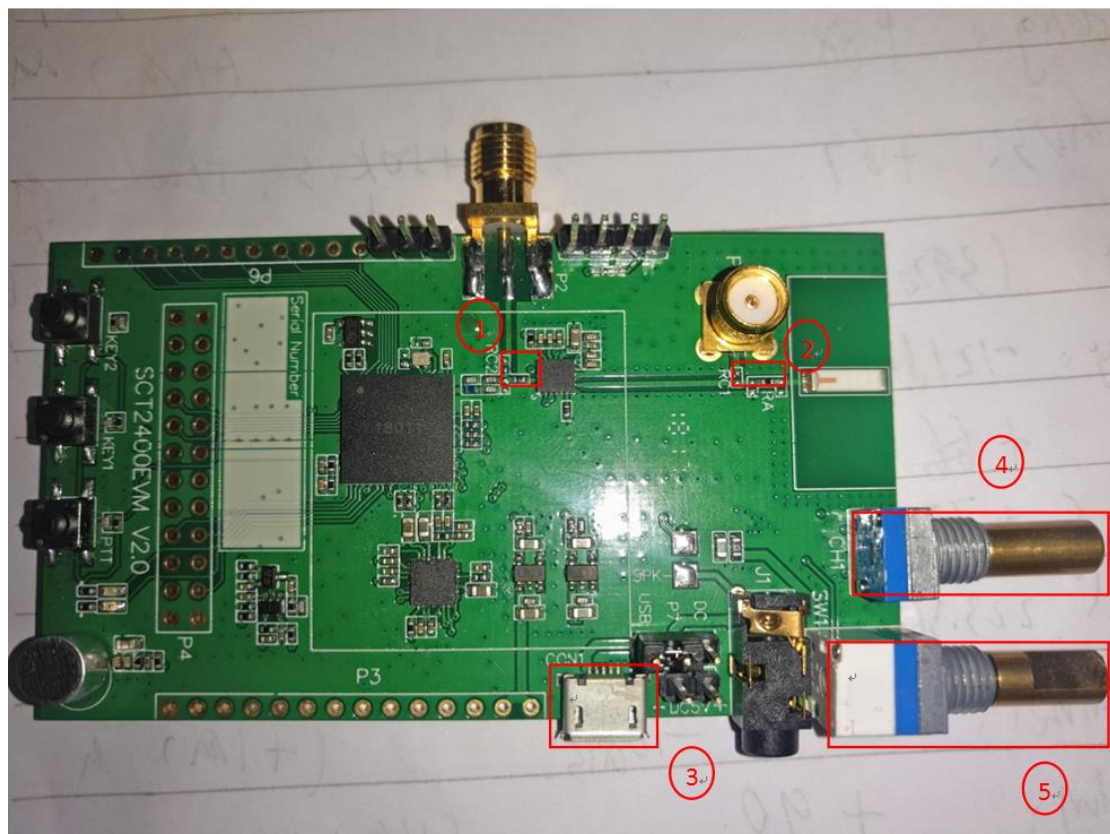
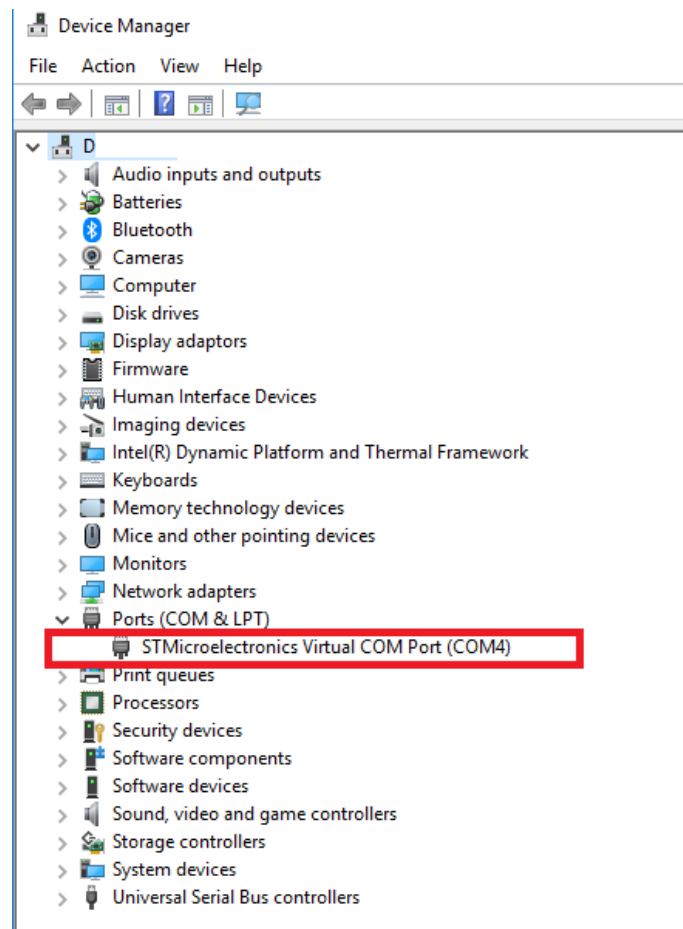
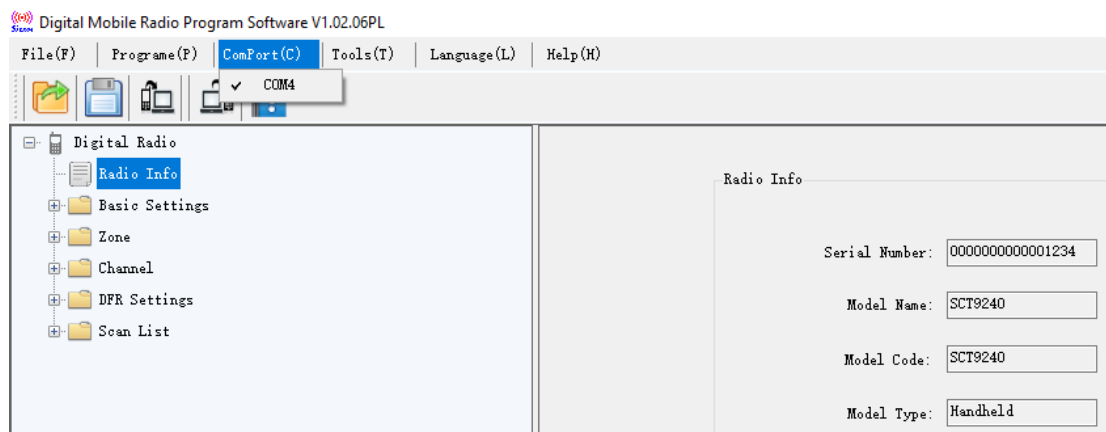
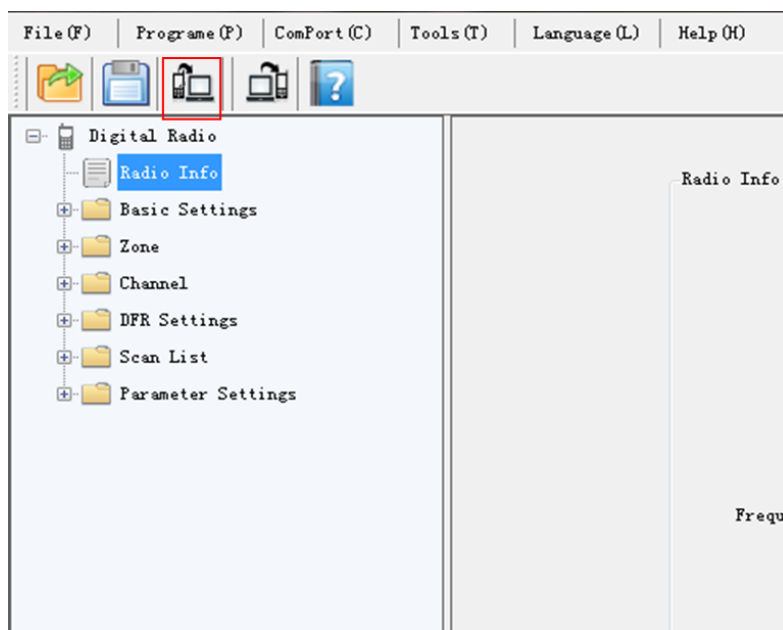

Figure 4.1 SCT2400 EVM
Figure 5.5 USB Identification
Figure 5.7 COM Port
Figure 5.8 Reading Frequency
In order to perform small-scale networking testing, the EVM transmit power should be reduced (output 0dBm). The transmit output of the SCT2400 can be disconnected from the PA (remove C102) and connected to the SMA interface (At ① shown in the Figure 4.1). This operation can also test the receiving indicator of the SCT2400. However, removing the external LNA will result in a deterioration of sensitivity.
The SCT2400 EVM is fitted with an standard LTCC 2.4GHz antenna. To test the transmit power (20dBm) or replace the antenna, disconnect the PA (remove inductor RA) from the LTCC antenna and connect the PA to the SMA interface (At ② shown in the Figure 4.1) by fitting a zero ohm resistor RC.
A voice announcement of the selected channel number is given. An alarm sound will be heard if channel switching exceeds the maximum configured channels (At ④ shown in the Figure 4.1).
Step 3: Connect the SCT2400 EVM to the computer via a universal USB cable (At ③ shown in Figure 4.1), then turn on the EVM power switch (At ⑤ shown in Figure 4.1) and confirm the USB identification in Device Manager (Shown in Figure 5.5).
First, run the CPS software, and connect the EVM to the computer, turn on the EVM power switch (At ⑤ shown in Figure 4.1). Click "ComPort" and select the appropriate COM port which should show in the drop down list (Shown in Figure 5.7). Click "Program" and find the "Read" icon to implement the reading operation (See Figure 5.8).